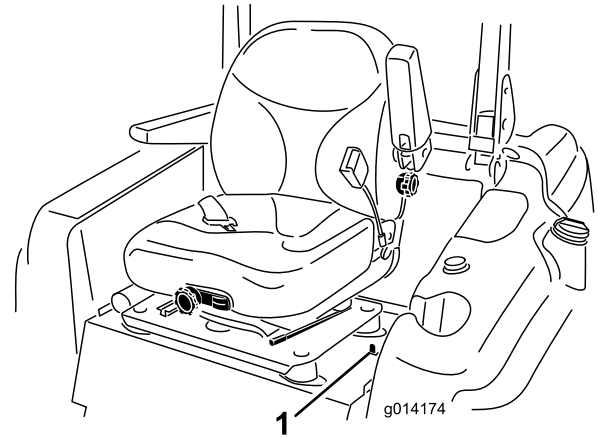

Figure 16
- Move the seat latch, located on the left side of the seat, rearward to unlatch the seat and pull forward on the top of the seat (Figure 16).